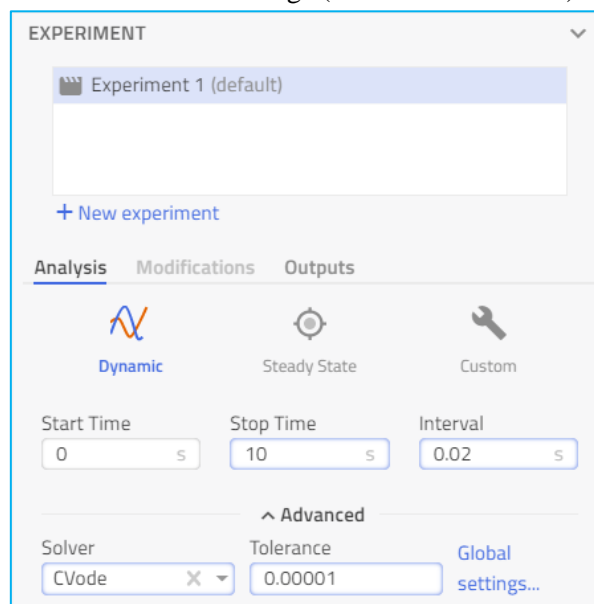

Figure 6 Simulation setup
- Switch to **Experimentation** mode by clicking the button  in the *App Bar* on the top of your window. You can now safely experiment with your model, without changing the original model. In the *Details Panel*, expand the **Experiment** tab, and under **Analysis**, go to **Advanced** and see the numerical settings (solver and tolerance). See Figure 6.